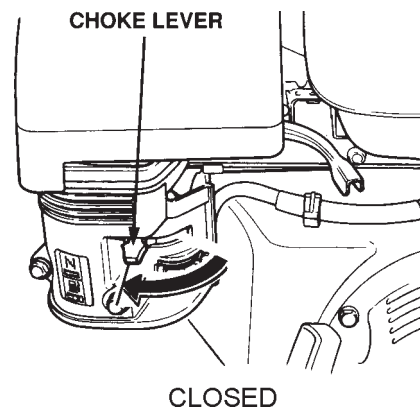

Figure 10. Engine Choke Lever (Closed)
4. Place the **choke lever** (Figure 10) in the "CLOSED" position if starting a **warm engine** or the **temperature is warm**.